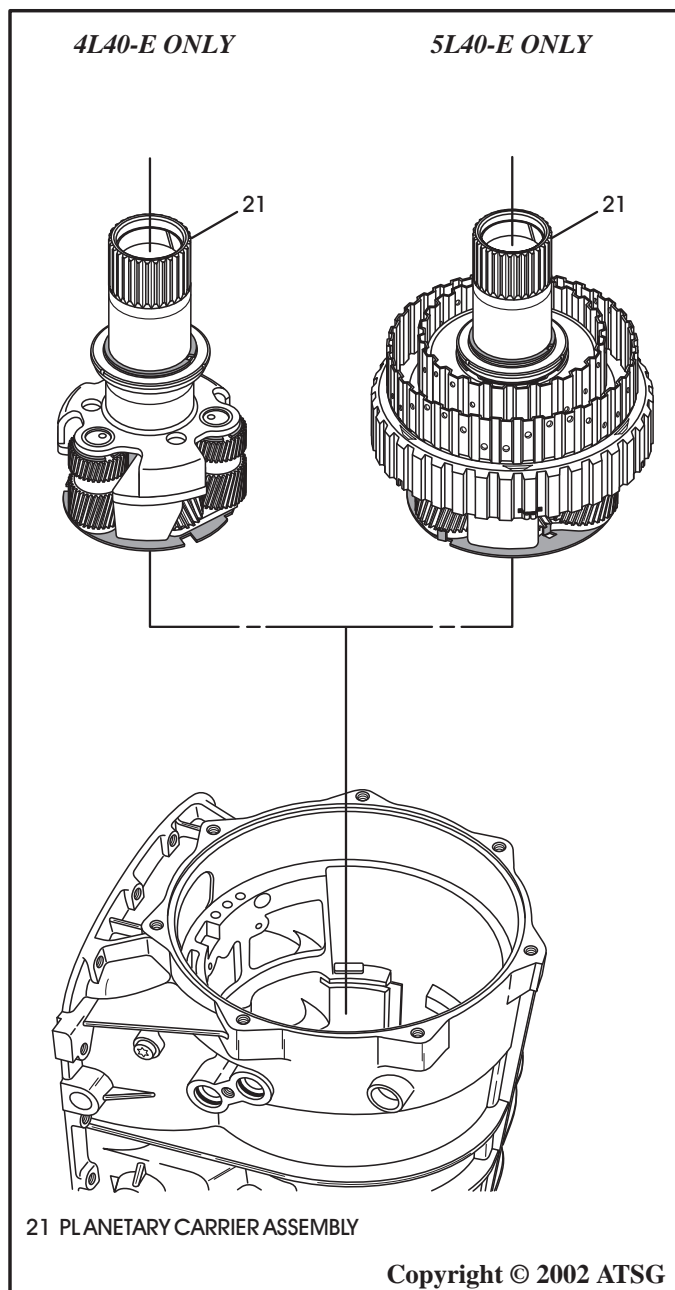

Figure 175
2. Install pre-assembled planetary carrier system, as shown in Figure 175, by rotating down into position.
Note: We have illustrated both the 4L40-E and the 5L40-E in Figure 175.